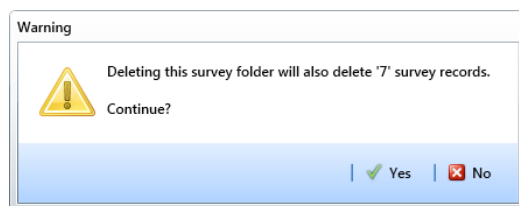

Figure 6-10. Warning
- 7 Click  **Yes** when a warning displays asking if you want to continue deleting the survey folder and associated survey readings (Figure 6-10).